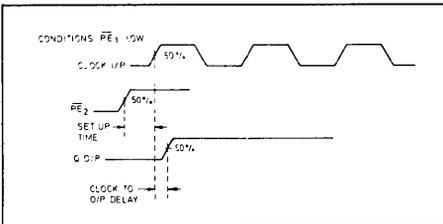

Fig. 3 Set-up timing diagram
- Set-up time is defined as the minimum time that can elapse between a L→H transition of a control input and the next L→H clock pulse transition to ensure that the  $\bar{\phi}6$  mode is forced by that clock pulse (see Fig. 3).